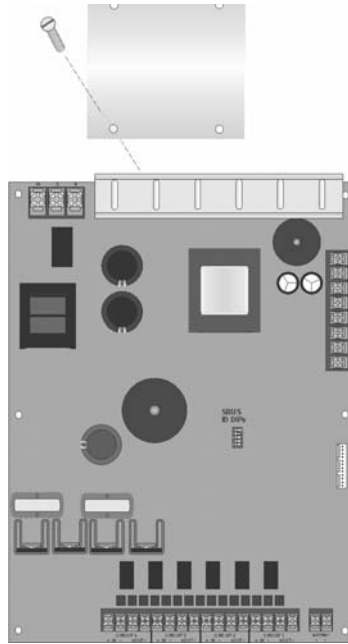

Figure 4-43 : ECS-125WBD Mounting Bracket
- Secure the supplied bracket to the top mounting bracket on the ECS-125WBD with the two mounting screws. See Figure 4-43.